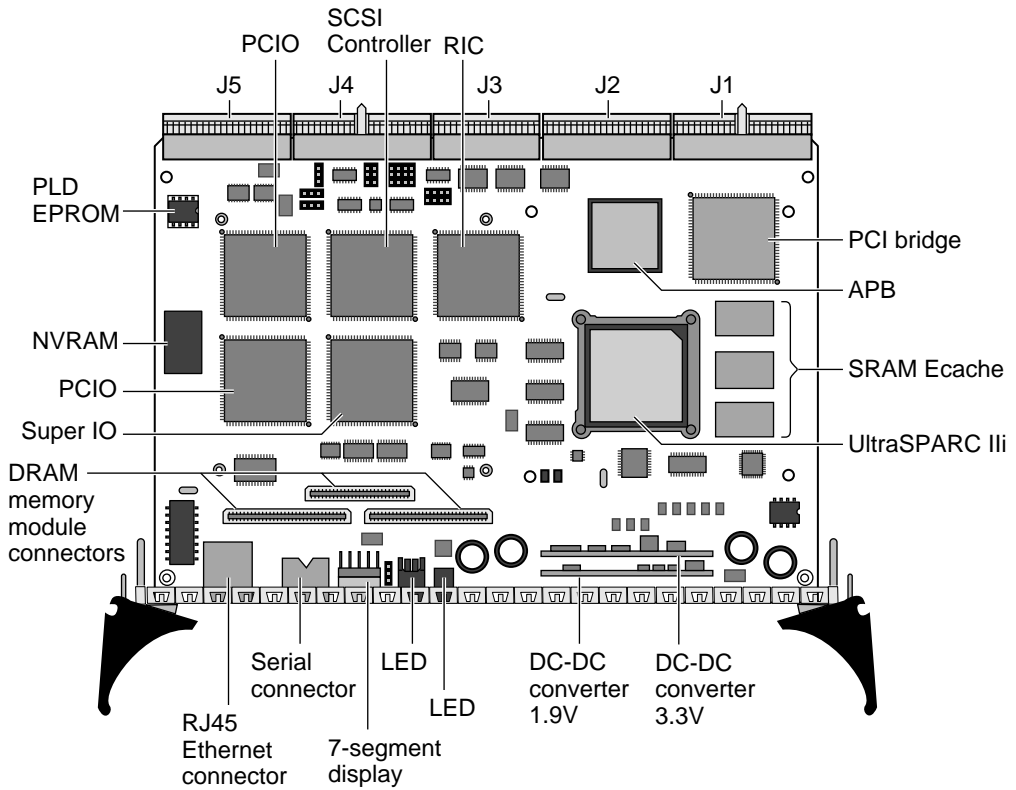
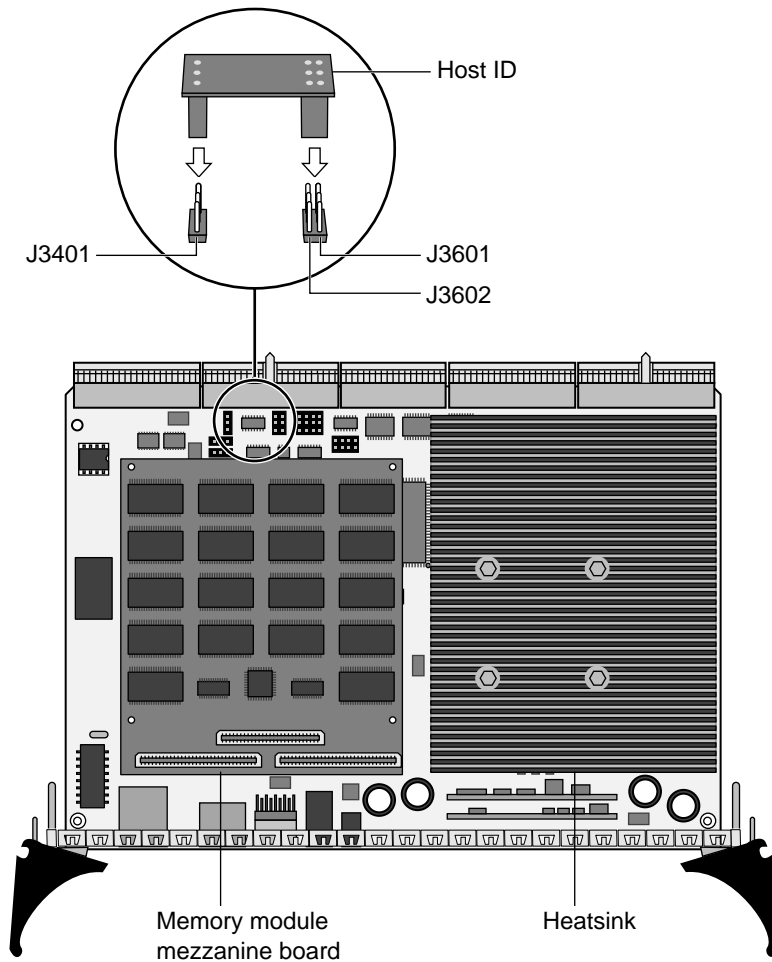

FIGURE 1-22 CPU Card (Without Memory Module)
FIGURE 1-23 CPU Card and Major Components (with Memory Module and Heatsink)
FIGURE 1-22 through FIGURE 1-23 show the layout of CPU card. Major components of the CPU card include:
- Memory module board (see FIGURE 1-23). The CPU card can support up to two memory module boards. These boards come in configurations of 64 MByte, 128 MByte, 256 MByte, or 512 MByte.